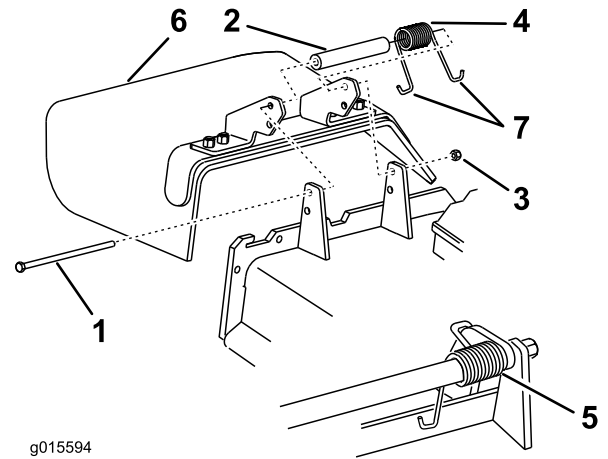

Figure 99
1. Remove the locknut, bolt, spring and spacer holding the deflector to the pivot brackets (Figure 99). Remove damaged or worn grass deflector.
Note: Make sure one J end of spring is installed behind deck edge before installing the bolt as shown in Figure 99.
3. Install bolt and nut. Place one J hook end of spring around grass deflector (Figure 99).